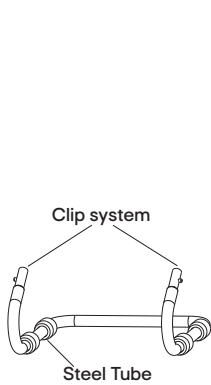

Figure 1
1. Take out of steel tube base from the packing box and remove the steel tube bag, as shown in Figure 1.